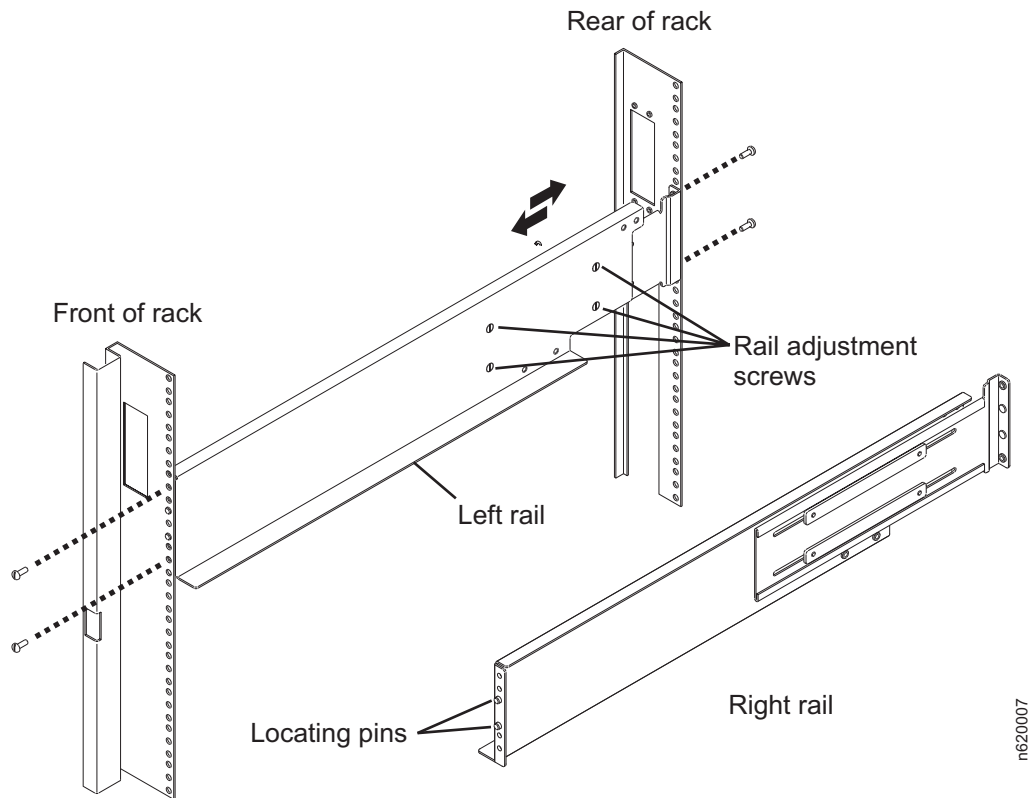

Figure 2. Installing the rails
1. Loosen (but do not remove) the four rail adjustment screws on each rail. See Figure 2.